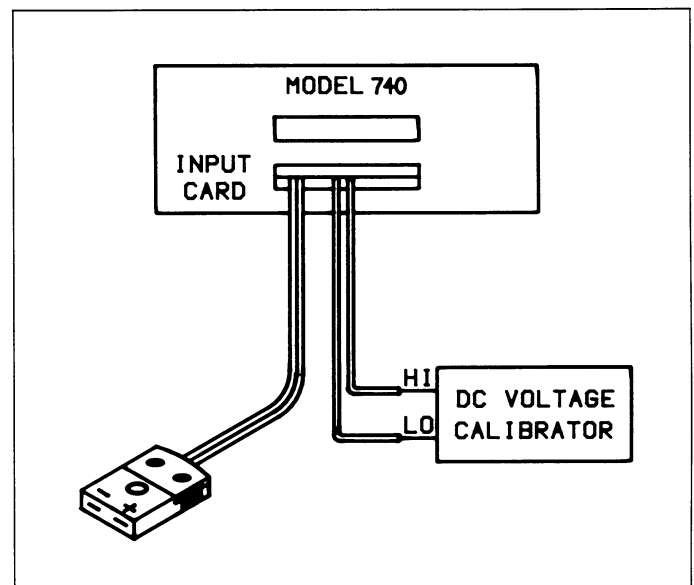

Figure 6-3. A/D Converter—Gain Calibration
12. Disconnect the short and connect the DC calibrator to the two copper wires as shown in Figure 6-3. Be sure to observe the proper polarity.
6. Disconnect the short and connect the DC calibrator to the two copper wires as shown in Figure 6-3. Be sure to observe the proper polarity.